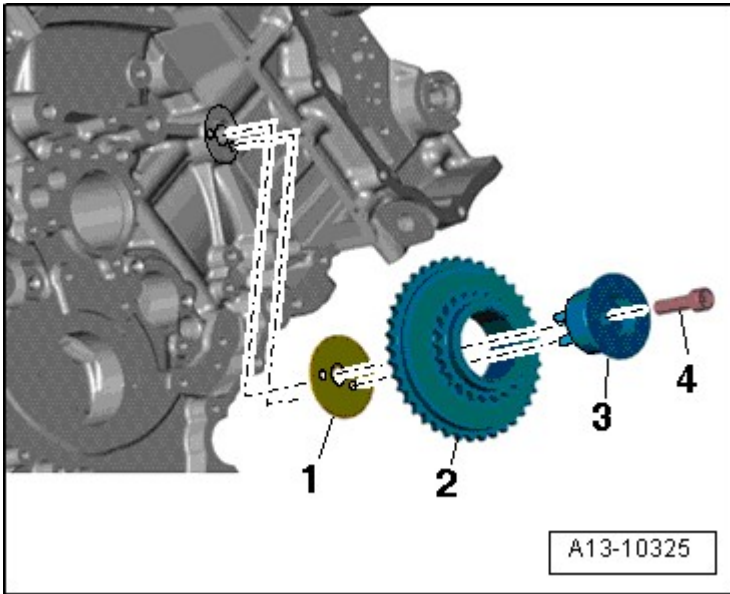

Fig. 3: Locating Camshaft Timing Chain Drive Sprocket Mounting Pins
- Installed position **Fig. 3**
- Tightening specification, refer to item 15